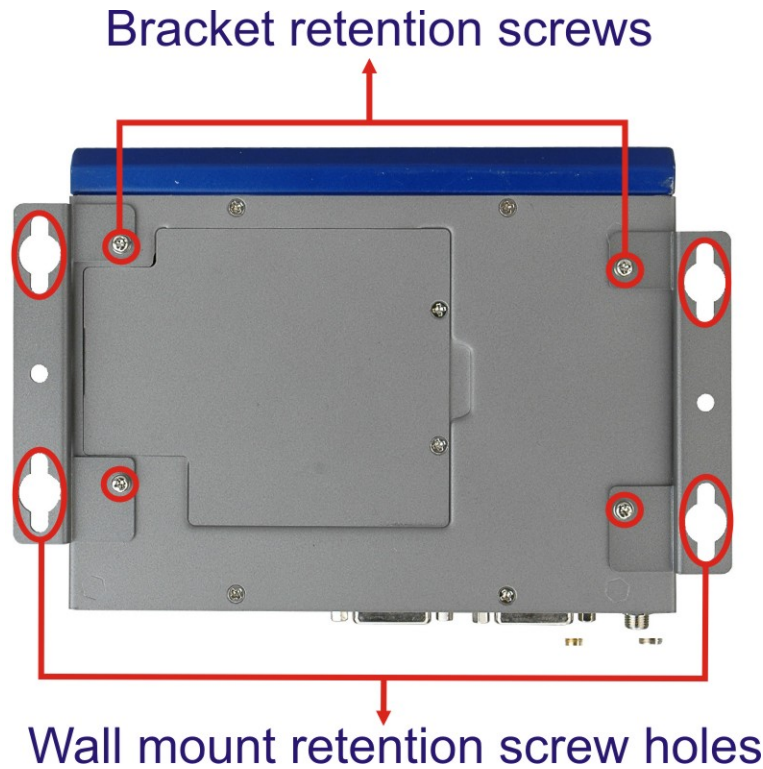

Figure 3-6: Mounting Bracket Retention Screws
- Step 3:** Secure the brackets to the system by inserting two retention screws into each bracket as illustrated in **Figure 3-6**.
To have the best system heat dissipation, please make sure to face the I/O panel downward (**Figure 3-6**) when mounting the system.